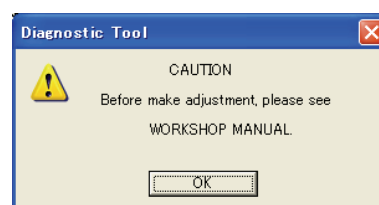

Fig. 9-6-1
- (1) Select this command from the menu bar, the message dialog box (Fig. 9-6-1) appears
- (2) Press the [OK] button on the message (Fig. 9-6-1), the Long-Term Adaptation Value dialog box will appear. The Long-Term adaptive values currently stored are displayed in this box.